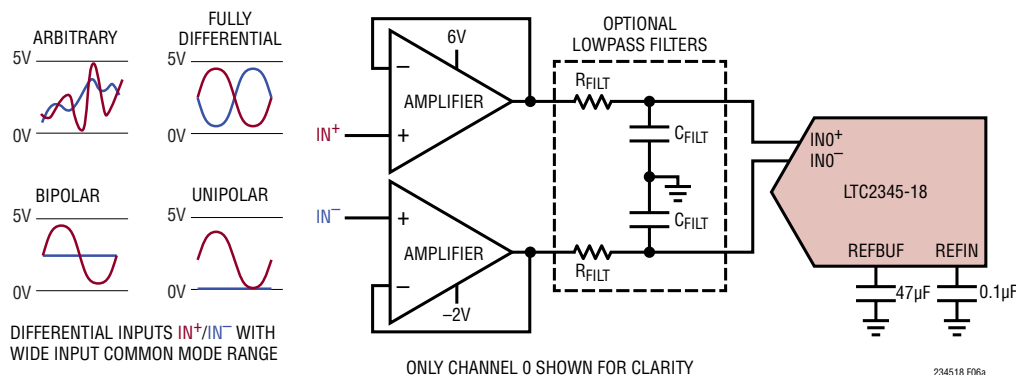
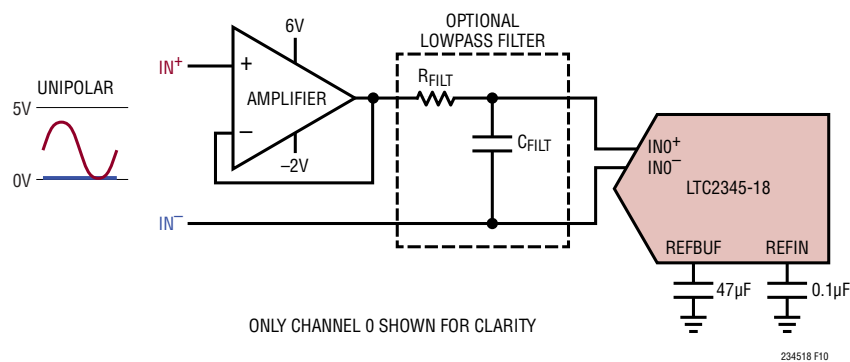

Figure 6a. Buffering Arbitrary, Fully Differential, Bipolar, and Unipolar Signals. See Table 2 For Recommended Amplifier and Filter Combinations
Figure 10. Buffering Single-Ended Input Signals. See Table 2 For Recommended Amplifier and Filter Combinations
design. In many applications, connecting a channel's  $IN^+$  and  $IN^-$  pins directly to the existing signal chain circuitry will not allow the channel's sampling network to settle to 18-bit resolution within the ADC acquisition time ( $t_{ACQ}$ ). In these cases, it is recommended that two unity-gain buffers be inserted between the signal source and the ADC input pins, as shown in Figure 6a. Table 2 lists several amplifier and lowpass filter combinations recommended for use in this circuit. The LT6237 combines fast settling, high linearity, and low offset with  $1.1\text{nV}/\sqrt{\text{Hz}}$  input-referred noise density, enabling it to achieve the full ADC data sheet SNR and THD specifications, as shown in the FFT plots in Figures 6b to 6e. In applications where slightly degraded SNR performance is acceptable, it is possible to drive the LTC2345-18 using the lower-power LT6234. The LT6234 combines fast settling, good linearity, and low offset with  $1.9\text{nV}/\sqrt{\text{Hz}}$  input-referred noise density, enabling it to drive the LTC2345-18 with only 0.4dB SNR loss compared with the LT6237 when a  $40.2\Omega$ , 1nF filter is employed. As shown in Table 2, the LT6237 may be used without a lowpass filter at a loss of  $\leq 1\text{dB}$  SNR due to increased wideband noise.
**Table 2. Recommended Amplifier and Filter Combinations for the Buffer Circuits in Figures 6a and 9. AC Performance Measured Using Circuit in Figure 6a,  $\pm 4.096\text{V}$  Range for Fully Differential Input Drive,  $\pm 0.048\text{V}$  Range for Bipolar Input Drive**
Figure 6b. Two-Tone Test.  $IN^+ = -7dBFS$  2kHz Sine,  $IN^- = -7dBFS$  3.1kHz Sine, Common Mode = 2.5V, 32k Point FFT,  $f_{SAMPL} = 200ksps$ . Circuit Shown in Figure 6a with LT6237 Amplifiers,  $R_{FILT} = 40.2\Omega$ ,  $C_{FILT} = 1nF$
Figure 6c.  $IN^+/IN^- = -1dBFS$  2kHz Fully Differential Sine, Common Mode = 2.5V, 32k Point FFT,  $f_{SAMPL} = 200ksps$ . Circuit Shown in Figure 6a with LT6237 Amplifiers,  $R_{FILT} = 40.2\Omega$ ,  $C_{FILT} = 1nF$
Figure 6d.  $IN^+ = -1dBFS$  2kHz Bipolar Sine,  $IN^- = 2.5V$ , 32k Point FFT,  $f_{SAMPL} = 200ksps$ . Circuit Shown in Figure 6a with LT6237 Amplifiers,  $R_{FILT} = 40.2\Omega$ ,  $C_{FILT} = 1nF$
Figure 6e.  $IN^+ = -1dBFS$  2kHz Unipolar Sine,  $IN^- = 0V$ , 32k Point FFT,  $f_{SAMPL} = 200ksps$ . Circuit Shown in Figure 6a with LT6237 Amplifiers,  $R_{FILT} = 40.2\Omega$ ,  $C_{FILT} = 1nF$
While the circuit shown in Figure 6a is capable of buffering single-ended input signals, the circuit shown in Figure 10 is preferable when the single-ended signal reference level is inherently low impedance and doesn't require buffering. This circuit eliminates one driver and lowpass filter, reducing part count, power dissipation, and SNR degradation due to driver noise. Using the recommended driver and filter combinations in Table 2, the performance of this circuit with single-ended input signals is on par with the performance of the circuit in Figure 6a.